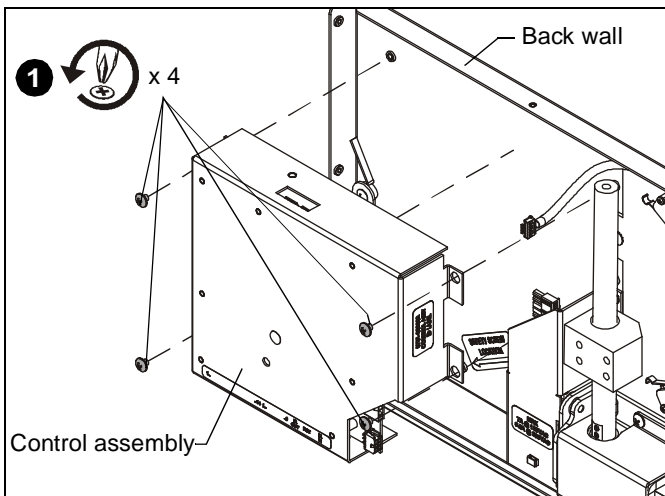

Figure 9
- Remove three screws from each side of back wall and two from top of back wall (8 screws total), and detach back wall from SL220 assembly. (See Figure 9)
- Remove four screws from control assembly located on back wall of SL220, and begin to remove control assembly. (See Figure 9)